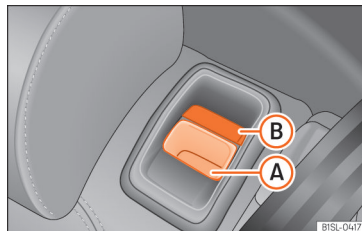

Fig. 135 Back seat: unlock button (A); red marking (B)
- Pull the unlock switch »» Fig. 135 (A) forwards whilst simultaneously lifting the rear seat backrest.
- The rear seat backrest is not engaged when the red marking of the button (B) is visible.